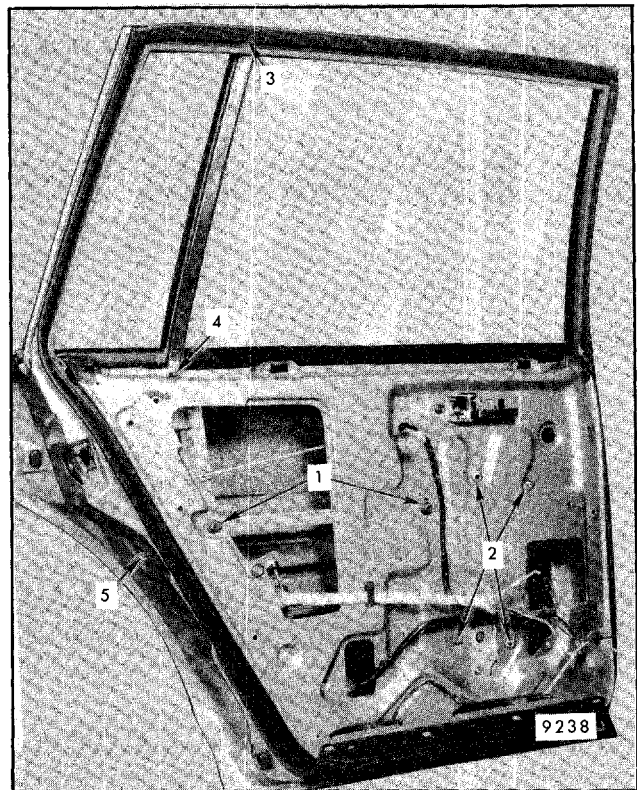

Fig. 5-139 - Rear Door Window Hardware - K Style
Adjustment has been provided to relieve a binding door glass due to misalignment of the ventilator division channel (4, Fig. 5-139).
2. Mark location and remove inner panel cam attaching screws (1, Fig. 5-139); then remove inner panel cam.
The stationary vent division channel is held in place by three attaching screws (Fig. 5-139). This assembly acts as a rear door window rear glass run channel and also holds the stationary vent window in proper position.
2. Remove three stationary vent division channel attaching screws (3, 4, 5, Fig. 5-139).
5. To install, reverse removal procedure. Tighten channel attaching screws (4 and 5, Fig. 5-139) to 72 in-lb. Tighten upper attaching screw (3, Fig. 5-139) with hand screwdriver.